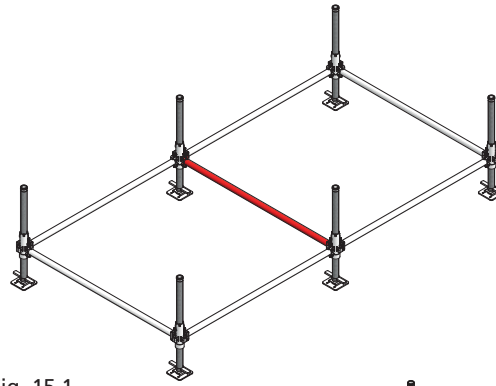

Fig. 15.1
4. Connect the 4 ledgers 170 MT with their integrated wedges to the base spindles MT (Fig. 15.1).
6. Tighten the wedges with a few hammer blows (Fig. 15.1).